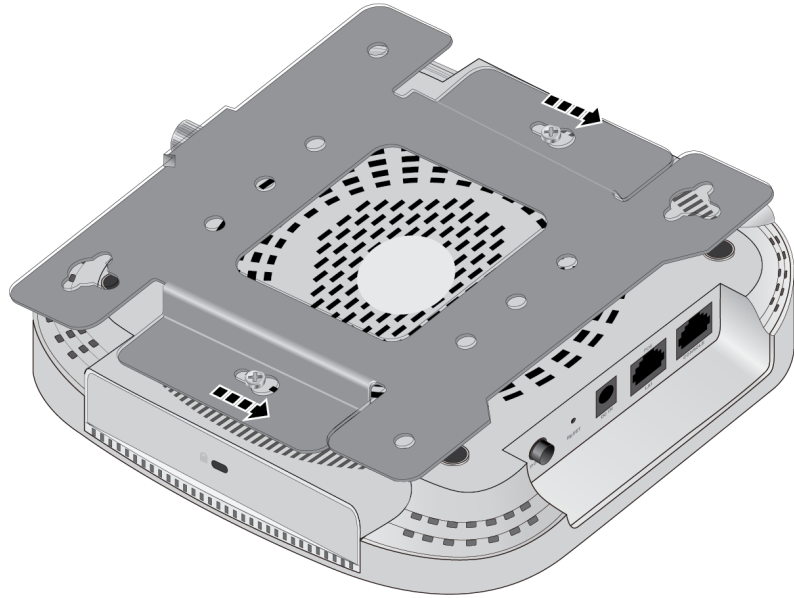

Figure 8. Attaching the Mounting Bracket on the Access Point
2. Install the mounting bracket on the wireless access point by sliding the keyholes under the screws. Refer to Figure 8 on page 40.